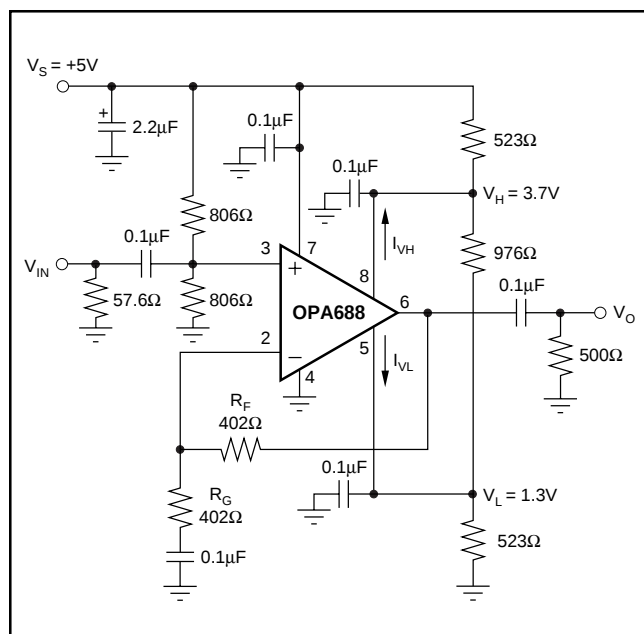

FIGURE 2. AC-Coupled, Single Supply Amplifier.
$G = +2$, $R_L = 500\Omega$ tied to $V_{CM} = 2.5V$, $R_F = 402\Omega$, $V_L = -1.2V$, $V_H = +1.2V$ (Figure 2 for AC performance only), unless otherwise noted.
NOTES: (1) Junction Temperature = Ambient Temperature for low temperature limit and 25°C guaranteed specifications. Junction Temperature = Ambient Temperature + 23°C at high temperature limit guaranteed specifications. (2) TEST LEVELS: (A) 100% tested at 25°C. Over temperature limits by characterization and simulation. (B) Limits set by characterization and simulation. (C) Typical value for information only. (3) Current is considered positive out of node. (4) CMIR tested as < 3dB degradation from minimum CMRR at specified limits. (5) I_{VH} (V_H bias current) is negative, and I_{VL} (V_L bias current) is positive, under these conditions. See Note 3, Figures 2, and Figure 8. (6) Limiter feedthrough is the ratio of the output magnitude to the sinewave added to V_H (or V_L) when $V_{IN} = 0$. (7) V_H slew rate conditions are: $V_{IN} = V_{CM} + 0.4V$, $G = +2$, $V_L = V_{CM} - 1.2V$, $V_H =$ step between $V_{CM} + 1.2V$ and V_{CM} . V_L slew rate conditions are similar. (8) Linearity Guardband is defined for an output sinusoid ($f = 5MHz$, $V_O = V_{CM} \pm 1V_{p-p}$) centered between the limiter levels (V_H and V_L). It is the difference between the limiter level and the peak output voltage where SFDR decreases by 3dB (see Figure 9).
$G = +2$, $R_F = 402\Omega$, $R_L = 500\Omega$ tied to $V_{CM} = 2.5V$, $V_L = V_{CM} - 1.2V$, $V_H = V_{CM} + 1.2V$, (Figure 2 for AC performance only), unless otherwise noted.
Figure 2 shows an AC-coupled, non-inverting gain amplifier for single +5V supply operation. This circuit was used for AC characterization of the OPA688, with a 50Ω source,
The OPA688 is nominally specified for operation using either $\pm 5\text{V}$ supplies or a single $+5\text{V}$ supply. The maximum specified total supply voltage of 12V allows reasonable tolerances on the supplies. Higher supply voltages can break down internal junctions, possibly leading to catastrophic failure. Single-supply operation is possible as long as common mode voltage constraints are observed. The common mode input and output voltage specifications can be interpreted as a required headroom to the supply voltage. Observing this input and output headroom requirement will allow design of non-standard or single-supply operation circuits. Figure 2 shows one approach to single-supply operation.
When the limiter voltages need to be within 2.1V of the supplies ($V_L \leq -V_S + 2.1\text{V}$ or $V_H \geq +V_S - 2.1\text{V}$), consider using low impedance buffers to set V_H and V_L to minimize errors due to bias current uncertainty. This will typically be the case for single supply operation ($V_S = +5\text{V}$). Figure 2 runs 2.5mA through the resistive divider that sets V_H and V_L . This keeps errors due to I_{VH} and $I_{VL} < \pm 1\%$ of the target limit voltages.